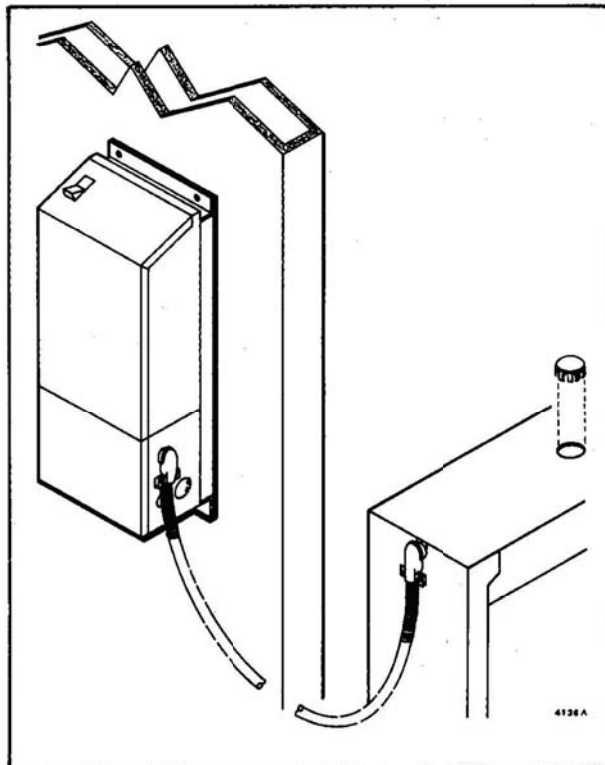

FIG. 26—FLEXIBLE CONDUIT CONNECTS AIR CLEANER CABINET TO REMOTE POWER SUPPLY.
5. Bolt the new conduit to the back of the cabinet and to the junction box or power supply (Fig. 26).